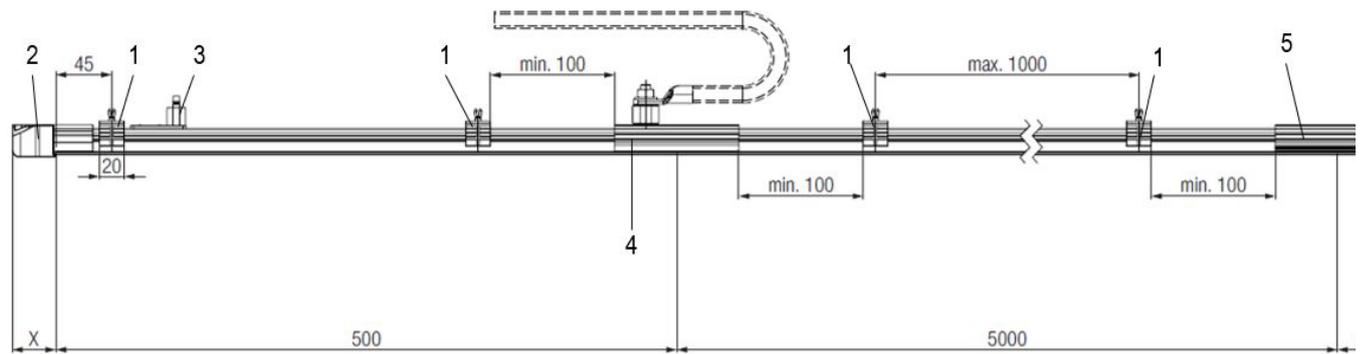

Fig. 39: Minimum and maximum distances between hanger clamps
- Support structure (substructure) for the hanger clamps according to Fig. 39. The diameter "X" depends on the fastening of the universal hanger clamp.